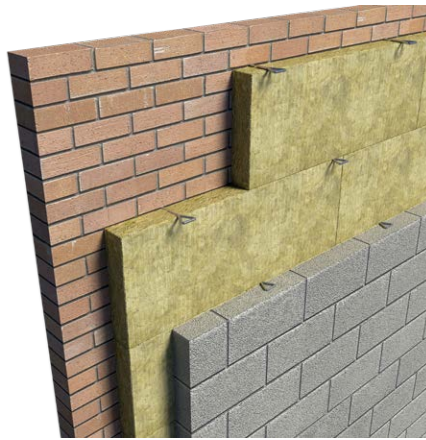

Figure 2
- 5.** Cavity trays should incorporate stop ends, have weep holes at approximately 450mm centres (or a maximum of 900mm centres) and be continuous across closely spaced openings (Figure 2).
4. Before installing each course of batts, excess mortar must be removed from the inside face of the leading leaf, and mortar droppings cleaned from the exposed edges of the batts. This is made easier by the use of a cavity board (Figure 2). This sequence should be maintained progressively until it reaches the wall plate or cavity tray. It is important for the insulation to be carried to the highest level possible (Figure 5).